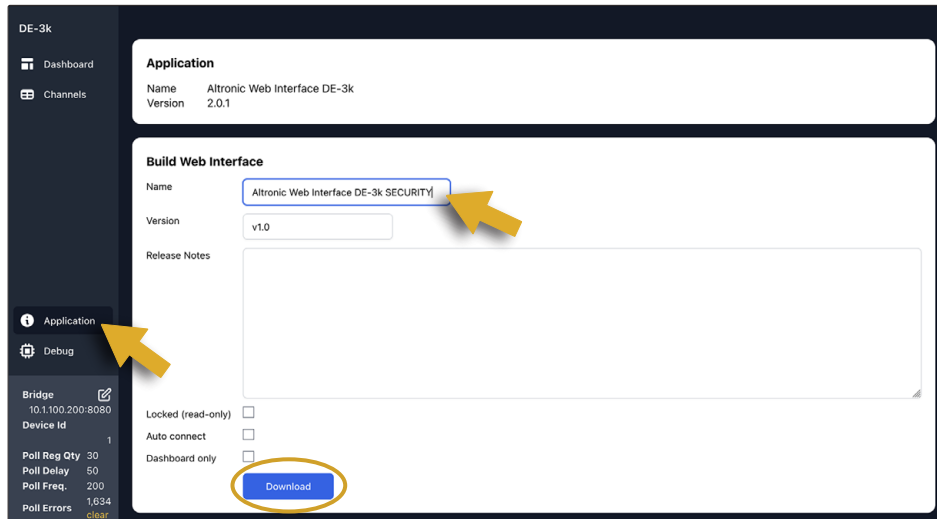

Figure 43
- a. Click the **Application** button in the left sidebar. See Figure 43.